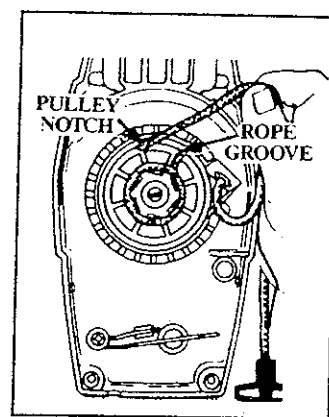

Figure 30
9. If the starter rope is not broken, release the spring tension by pulling about 12 inches of rope from the pulley and catch the rope in the notch as shown. Figure 30.
20. Pull the 12 inch slack in the rope into the inside of the fan housing and catch rope in pulley notch. Figure 30.